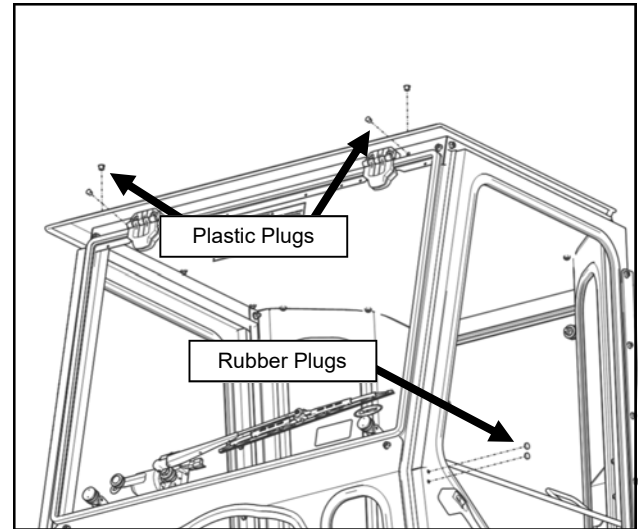

Fig. 29.1 (Install Plugs)
29.1 If installing accessories, please do so now. If not, use the supplied plugs to fill any exposed holes. See Figure 29.1.